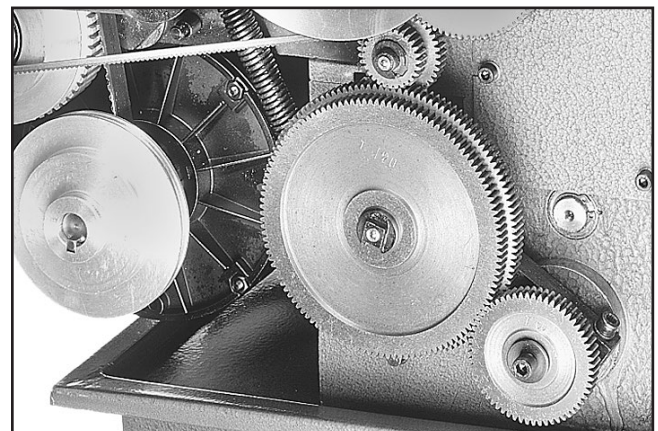

Figure 52. Change gears configured for a feed rate of 0.0078".
14. Rotate the pivot arm up so that the 127T and 28T "a" gear mesh, then tighten the pivot arm cap screw to secure it in place, as shown in **Figure 52**.